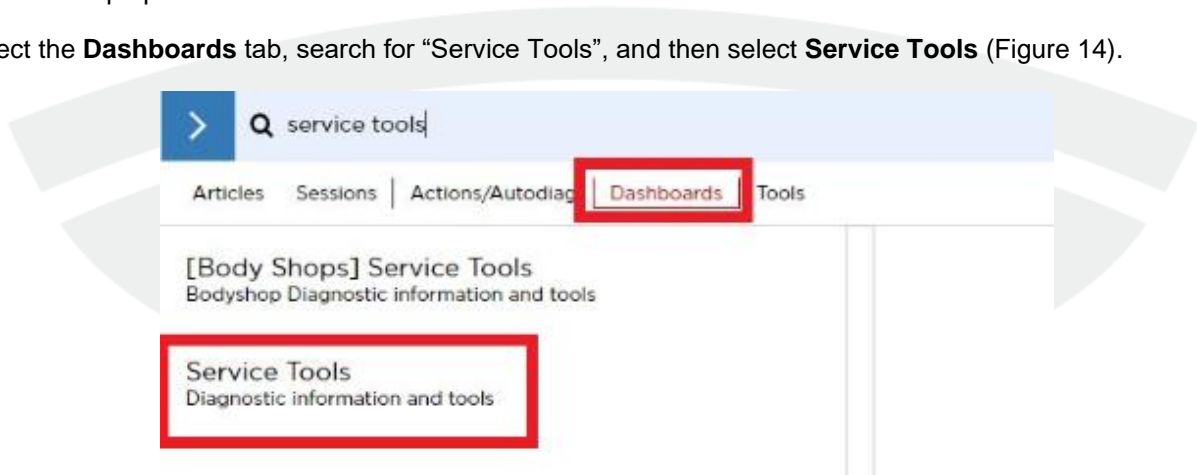

Figure 14
16. Select the **Dashboards** tab, search for “Service Tools”, and then select **Service Tools** (Figure 14).